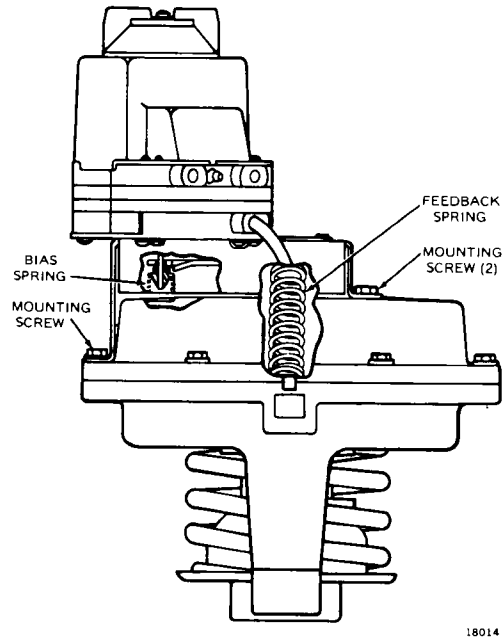

Fig. 2. MP953B Showing Installed Positioner Retrofit Kit.
4. Install new bias spring and feedback spring of 3, 5, or 10 psi (21, 34, or 69 kPa) range from positioner retrofit kit into valve and to positioner (Fig. 2).